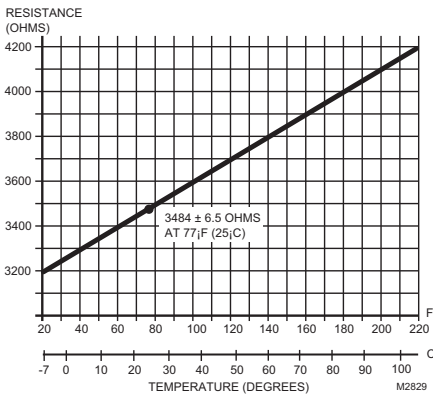

Fig. 6. C7100A,C Sensor resistance vs. temperature.
Fig. 6 shows how the sensor resistance varies with temperature for a sensor having a positive temperature coefficient (PTC) of 4.8 ohms per degree F (8.6 ohms per degree C).
3. Assure nominal resistance measurements are in accordance with the resistance/temperature curves (see Fig. 6 through 8).